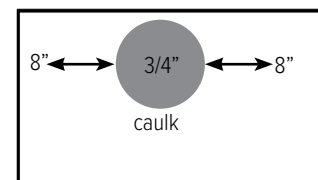

Figure 2.4.3
2.4.3 Apply caulk on vertical flat Reveal as shown in Figure 2.4.3. Double sided tape can be placed sporadically across the reveal.